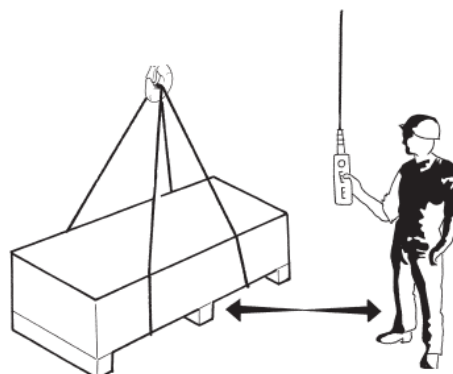

fig.66
- ▶ **ALWAYS** operate outside the manoeuvring range of the lifted load (fig. 66).